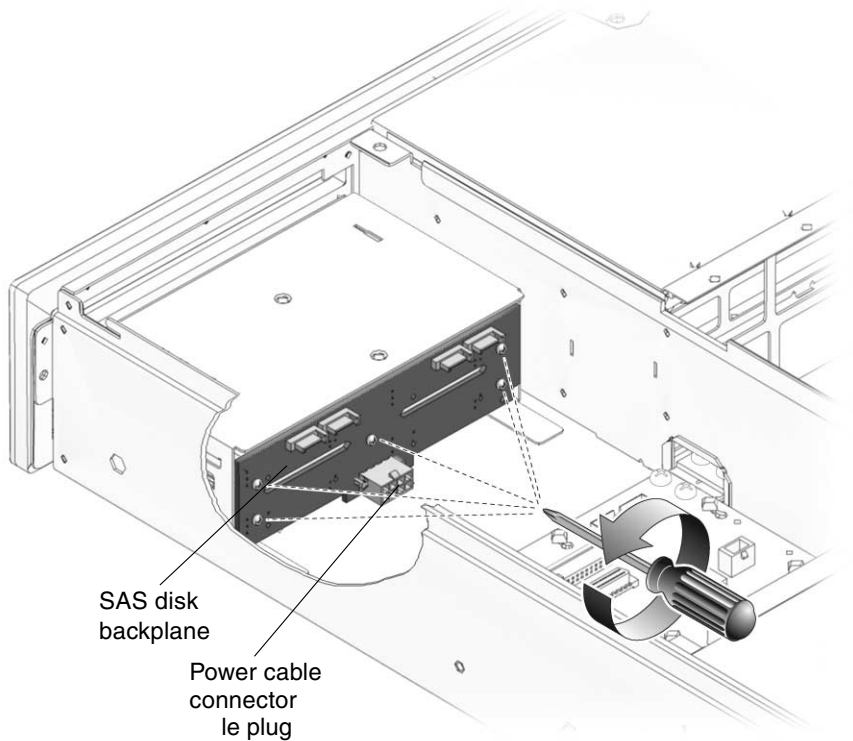

FIGURE 5-25 Removing the SAS Disk Backplane
6. Remove the five screws that secure the SAS disk backplane to the chassis (FIGURE 5-25).